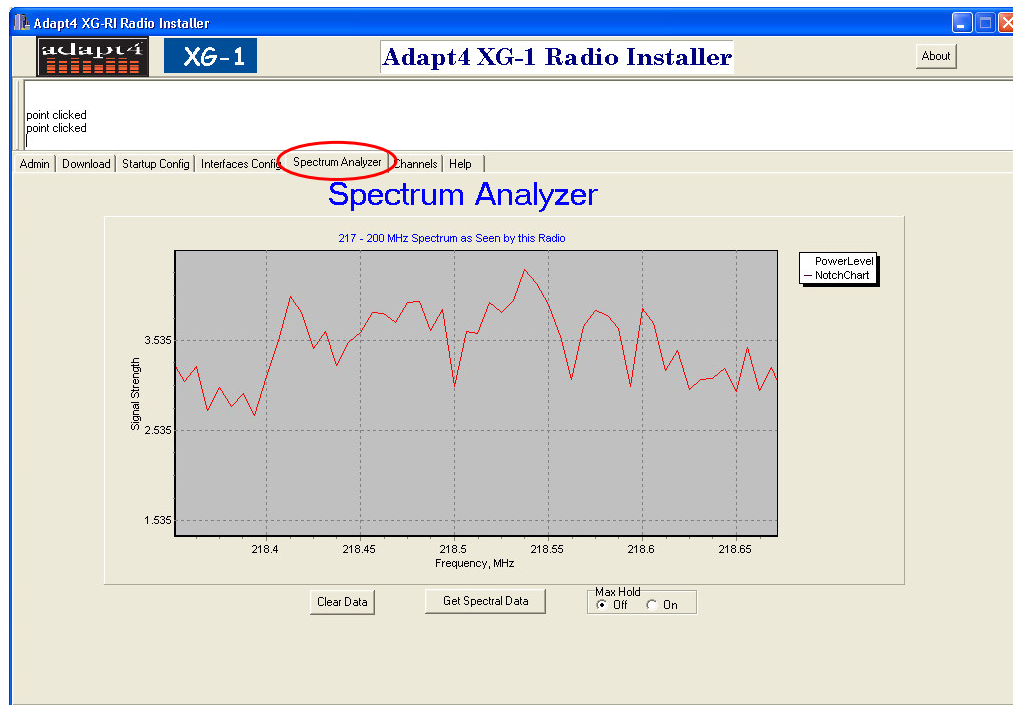

Figure 1.6-2: Zoomed In Plot
- You can zoom in on the plot, as shown in Figure 1.6-2, by dragging the mouse from upper left to lower right. Do the reverse to zoom back out.